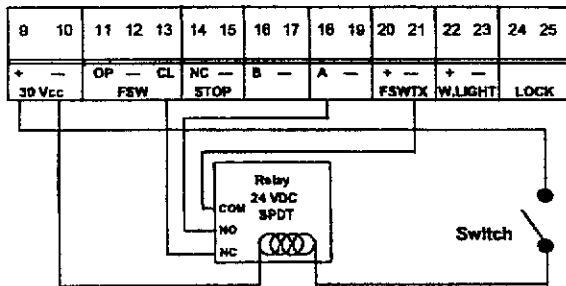

Figure 14. Connect an Open/Hold Open device with an external relay on the 450 MPS control panel
**Open/Hold Open Device:** To open and hold open the gate, an Open/Hold Open device must make a set of contacts across terminals 18 and 19 (or 16 and 17) and must break a set of contacts between terminals 13 and 21 (see Figure 14).